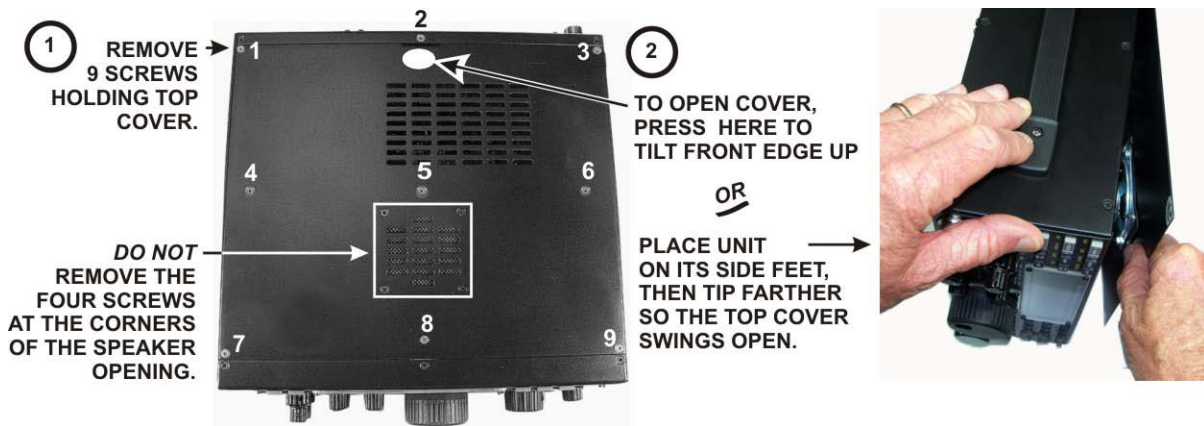

Figure 1. Removing K3S/K3 Top Cover.
- Remove the nine screws to free the top cover as shown in Figure 1. After the cover is open, lift it gently to reach the speaker wire connector. Unplug the speaker then set the top cover aside in a safe place.